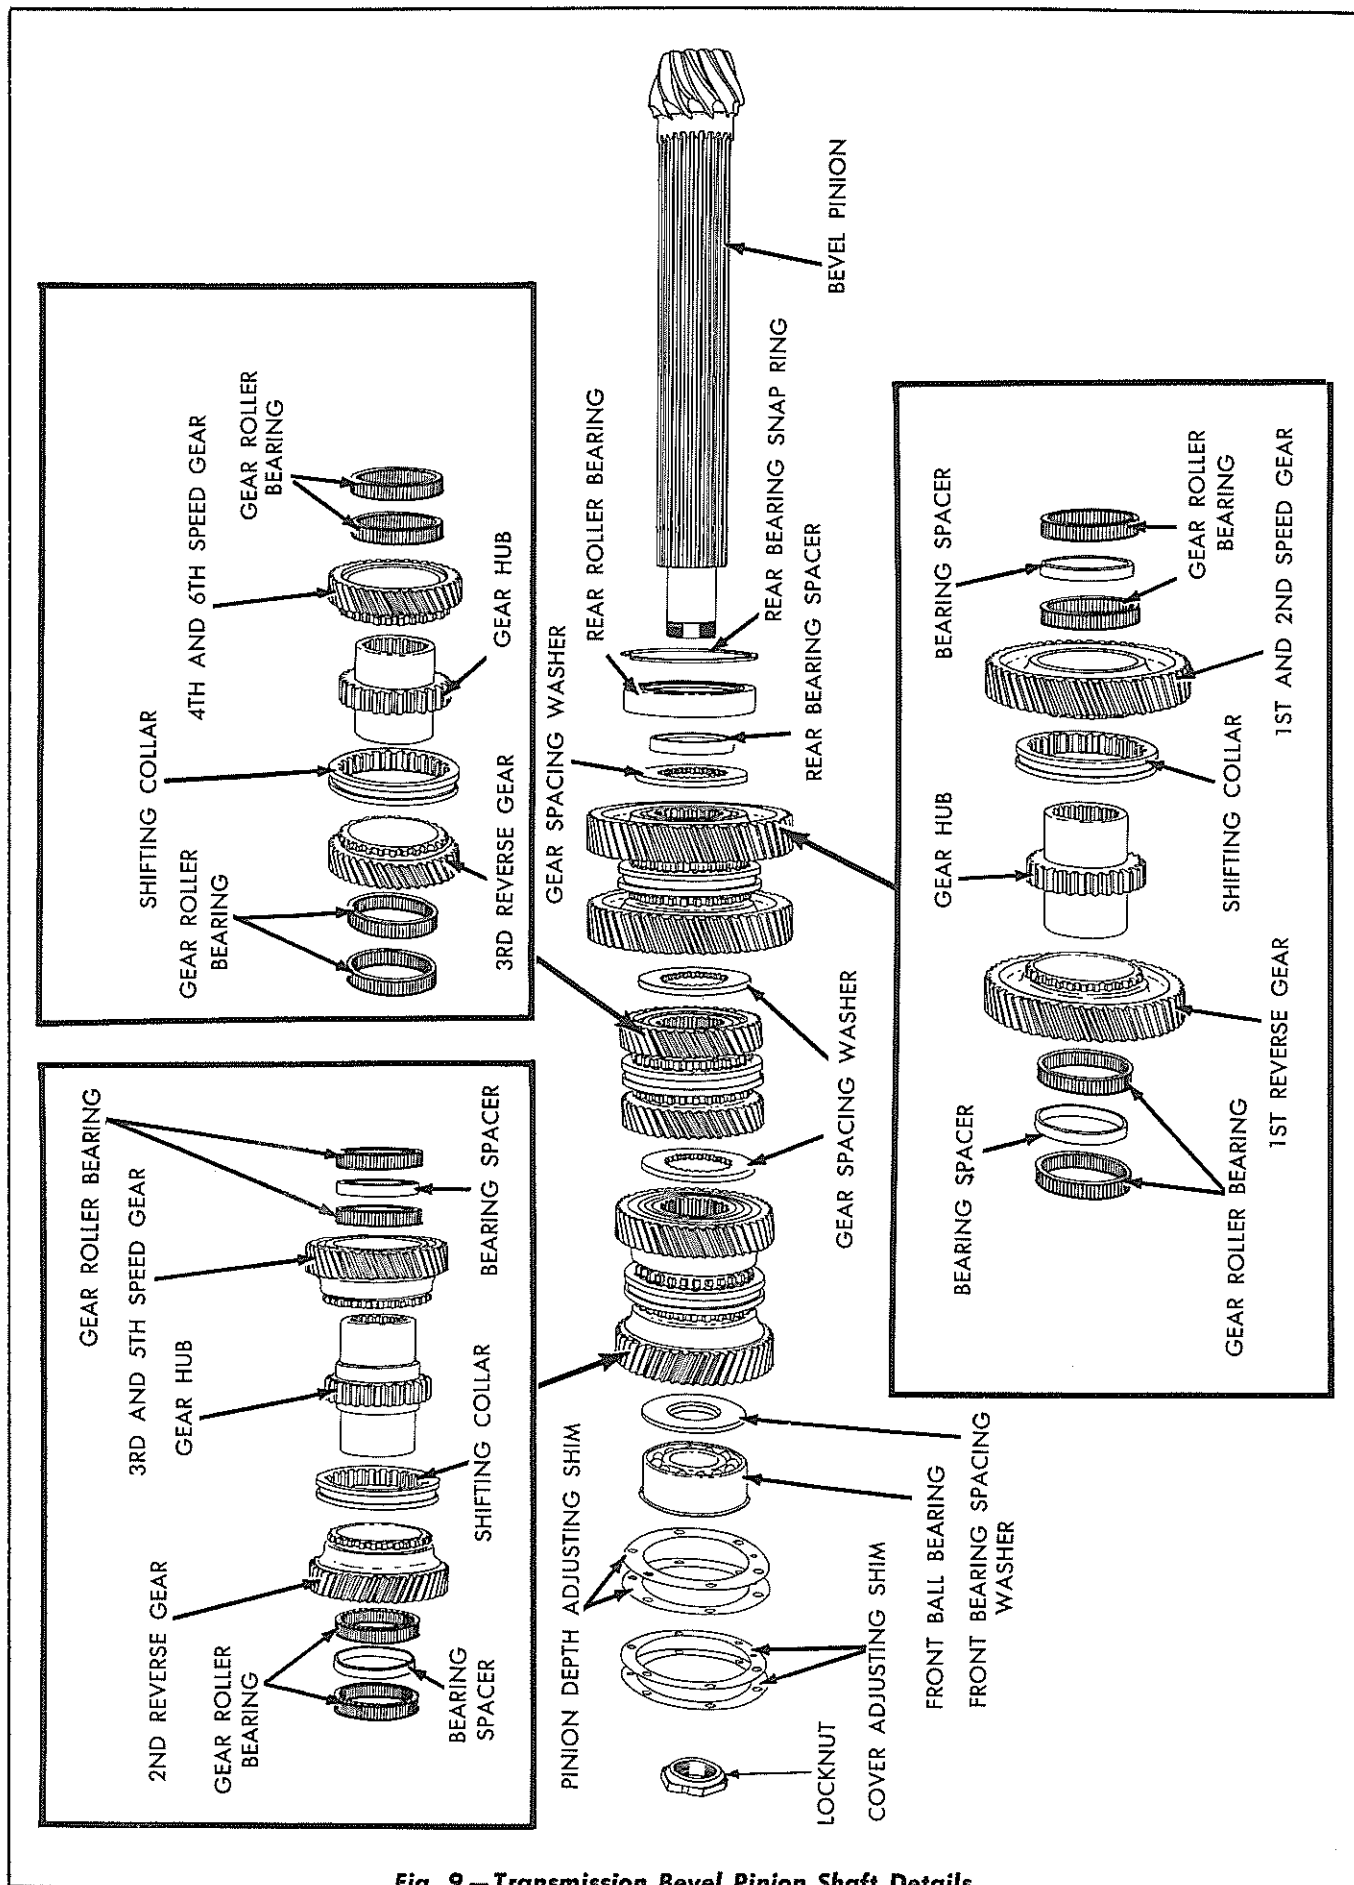

Fig. 9 — Transmission Bevel Pinion Shaft Details
- a. With the bevel pinion rear gear cluster in position in the transmission case as outlined in E, 1 above, refer to Fig. 9 and assemble the front gear cluster (2nd reverse gear [55 teeth] and 3rd and 5th speed gear [55 teeth]), inside the transmission case in the same manner in which the rear gear cluster was assembled. When assembling, coat the rear face of the front bearing spacing washer with grease to hold it in position against the 2nd reverse gear. *NOTE: The gear hub for the 2nd reverse and the 3rd and 5th speed gears, of the front gear cluster, has two different width bearing journals;*